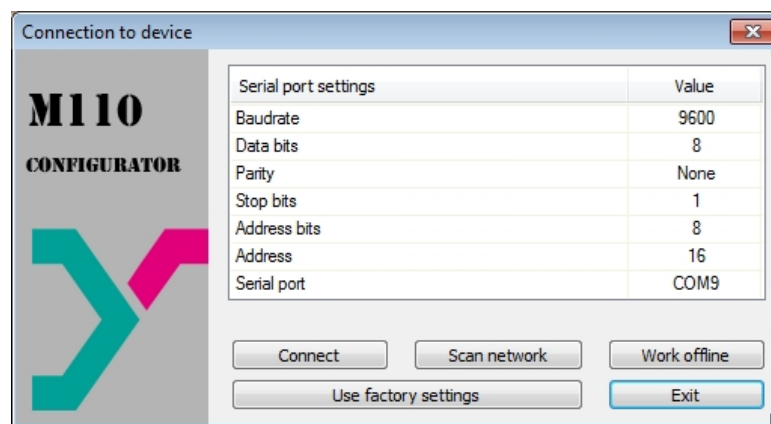

Fig. 7.1 “Connection to device” dialog window
- set the parameters to default (see Table 7.1) or click “Use factory settings” (see Fig. 7.1) in the dialog window “Connection to device”